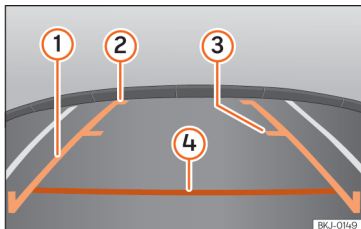

Fig. 261 Display on the Easy Connect system screen: guide lines.
- Vehicle load modifies the representation of the guide lines »» Fig. 261. The width represented by the lines decreases with vehicle load. Pay special attention to the surroundings when the inside of the vehicle of the luggage compartment are loaded.
Meaning of the orientation lines » Fig. 261